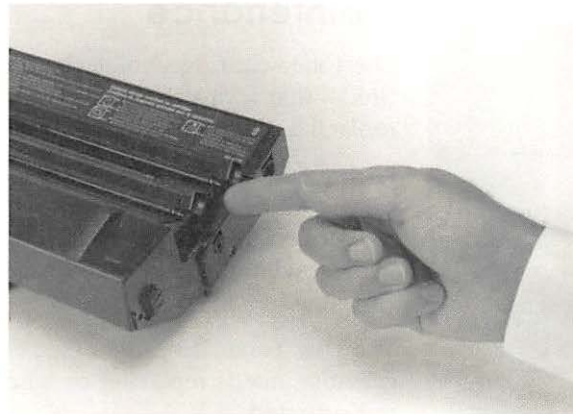

Figure 6-3
- Don't open the light-blocking shutters on the toner cartridge. (See Figure 6-3.)